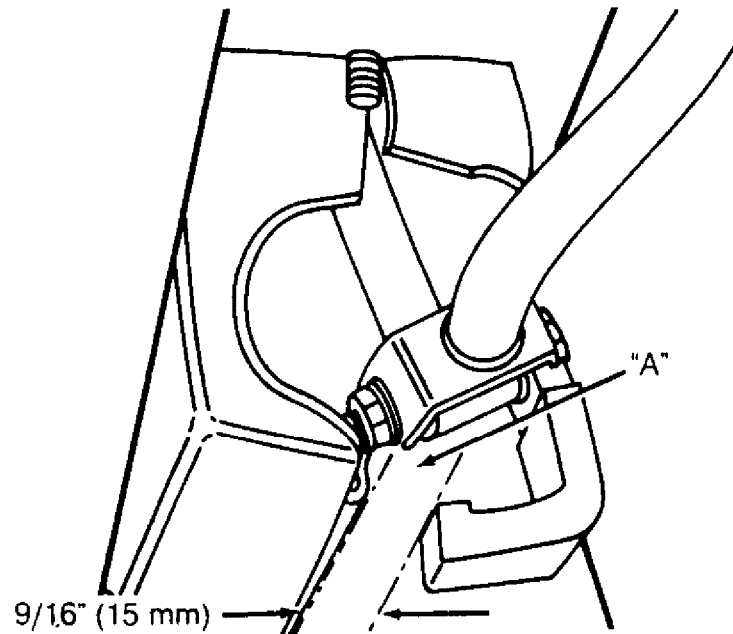

Fig. 3: Adjustment Gauge Location
2) Remove gearshift knob and boot. Position Adjustment Gauge (3104) over shift rod. See Fig. 3. With transaxle in Neutral, align shift rod with selector lever. Tighten shifter rod clamp to 19 ft. lbs. (26 N.m).